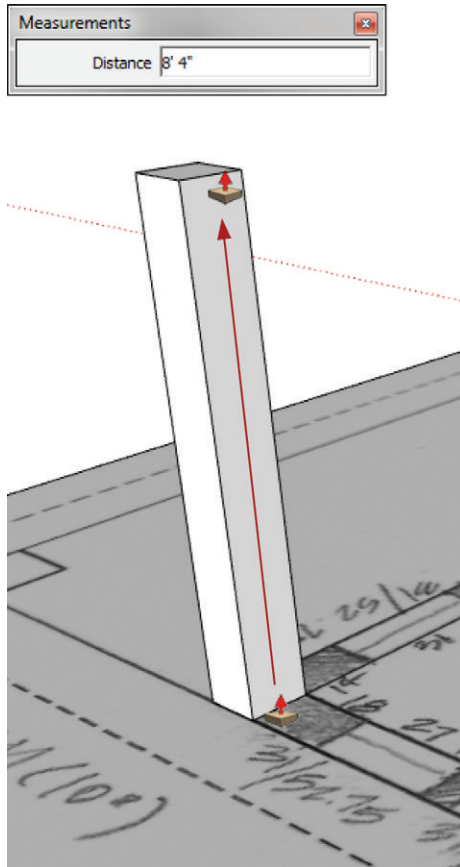

Figure 17.26 Pull the square up to the recorded ceiling height to begin to form the exterior walls.
2. Push/pull the square up to the recorded ceiling height of 8'4" (Figure 17.26).